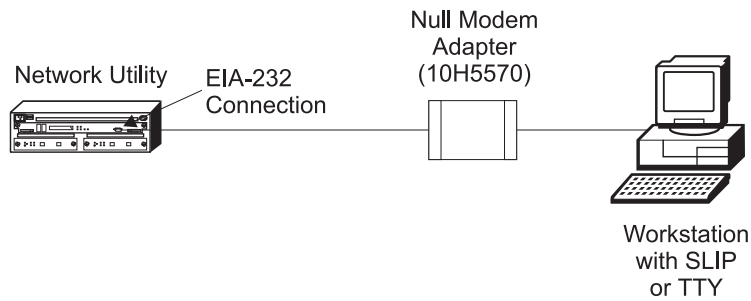
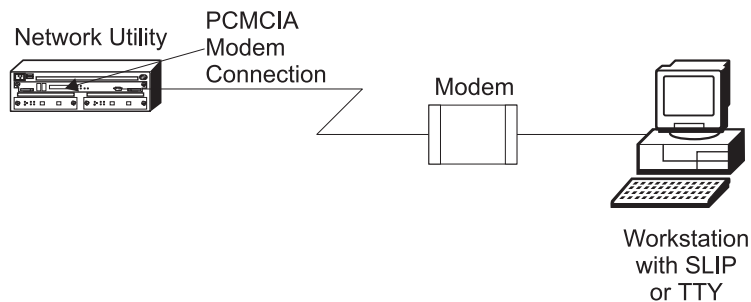

Figure 3. Local Workstation Serial Connection to the EIA 232 Port
Figure 4. Remote Serial Connection to the PCMCIA Modem
- Local connection through a null-modem cable attached to the EIA 232 service port (see Figure 3 on page 16). This type of connection uses the null-modem adapter and the two 9-to-25 pin serial cables that are supplied with this product.
- Remote dial-in (using telephone lines) through the PCMCIA modem (see Figure 4 on page 16).
- **If you are a new user and are physically adjacent to the Network Utility**, attach a workstation directly to the unit (see Figure 3 on page 16) using ASCII terminal emulation for your terminal console (see “ASCII Terminal Setup and Usage”). The key advantages of this method are:
Attach an ASCII terminal or emulator (with the appropriate emulation software) to provide local or remote access as shown in Figure 4 on page 16 and Figure 3 on page 16. DEC VT100 and DEC VT220 ASCII terminals are supported, as well as devices such as personal computer systems that are configured to emulate them.